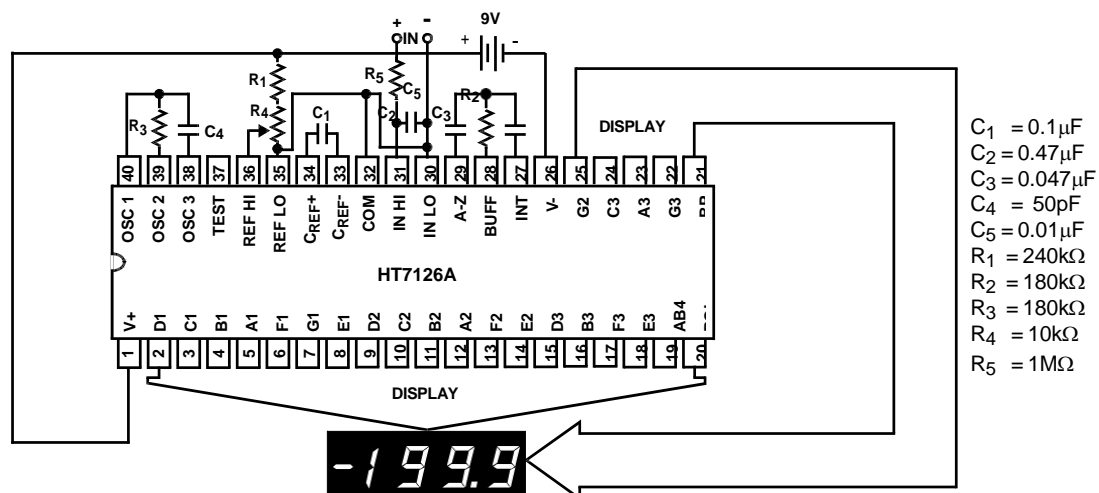

FIGURE 1. HT7126A TEST CIRCUIT AND TYPICAL APPLICATION WITH LCD DISPLAY COMPONENTS SELECTED FOR 200mV FULL SCALE
3. Unless otherwise noted, specifications apply to the HT7126A at $T_A = 25^\circ\text{C}$, $f_{\text{CLOCK}} = 48\text{kHz}$. HT7126A is tested in the circuit of Figure 1.